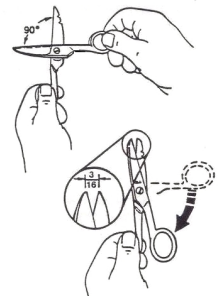

Fig. 4
2. Hold Snips open at 90° and allow horizontal blade to drop (Fig 4).
4. After drop test, turn snips over with post screw head facing downward. Support snips on a wooden block. Peen the tip of post screw lightly to prevent screwing back out (5).